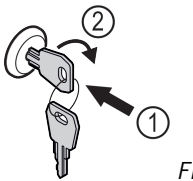

Fig. 121
- ▶ Insert key Fig. 121 (1).
- ▶ Turn key clockwise by 90° Fig. 121 (2).